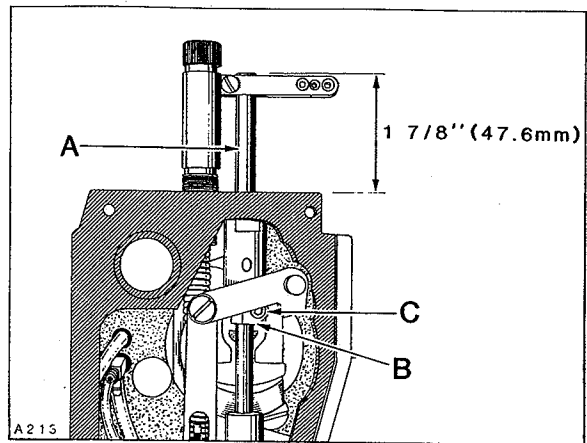
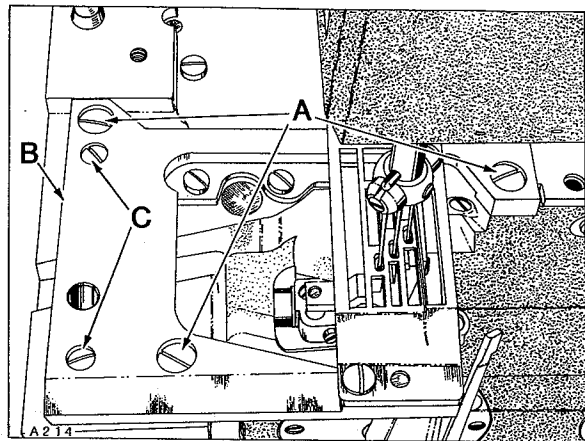

Fig. 7
Fig. 8
Insert a new set of needles. As a temporary setting, the TOP of needle bar (A, Fig. 7) should be approximately 1 7/8 inches (47.6mm) from the TOP of upper needle bar bushing when needle bar connection (B) is positioned at TOP of STROKE as shown in Figure 7.
Rotate handwheel to ensure that needles center in the needle holes of throat plate as shown in Figure 8. Adjustment can be made by loosening screw (C, Fig. 7) slightly, allowing needle bar to be rotated as required, while being careful to maintain the temporary height setting and tighten screw (C) AS SPECIFIED. An additional 4-way directional adjustment of the throat plate can be accomplished as follows:
**IMPORTANT:** Adjustment of throat plate must be coordinated between needles and feed dog; refer to "FEED DOG SETTINGS". Loosen three screws (A, Fig. 8) in throat plate support (B). Loosen two screws (C) which secure locating ferrules, allowing the throat plate support to be repositioned slightly. Tighten screws (C) first, then screws (A).